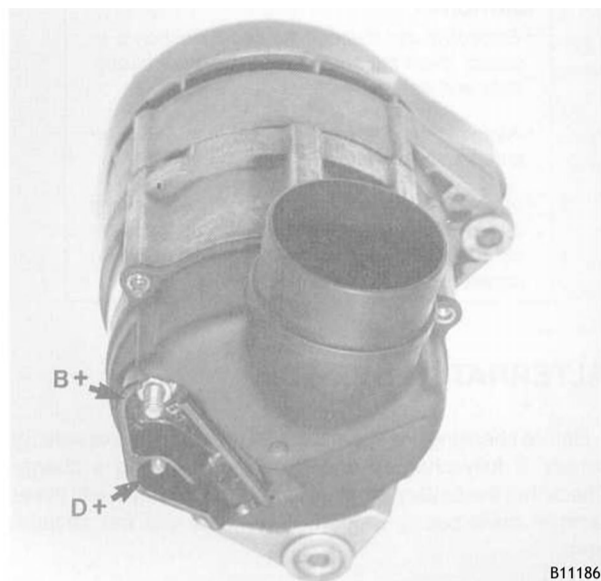

Fig. 3. Alternator terminal designation.
3. Check for battery voltage between ground and terminal B+ at back of alternator. Then turn ignition on and check for battery voltage between terminal D+ and ground. If voltage is not present at either point, check for wiring for faults. See Fig. 3.